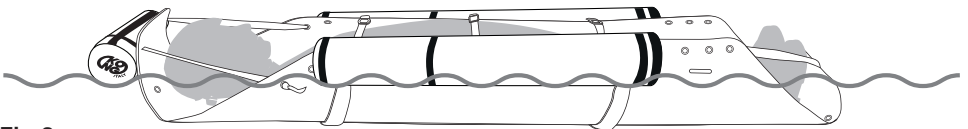

Fig.6
Overall buoyancy thrust (fig. 6) with the kit 880020300KK FLOKIT (P) fully submerged	400 N